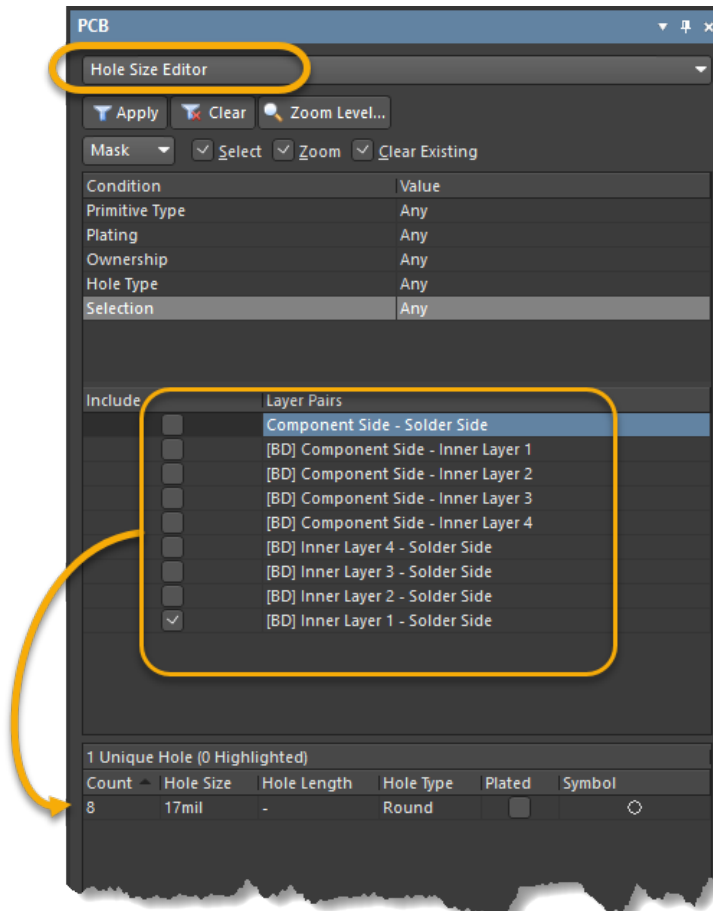

Figure 13. Hole Size Editor for BD Vias
20. To see all back drills from the design, open the *PCB* panel and select the *Hole Size Editor*. As for the other views from the *PCB* panel you can jump / mask individual objects by selecting/deselecting the different objects, Figure 13.